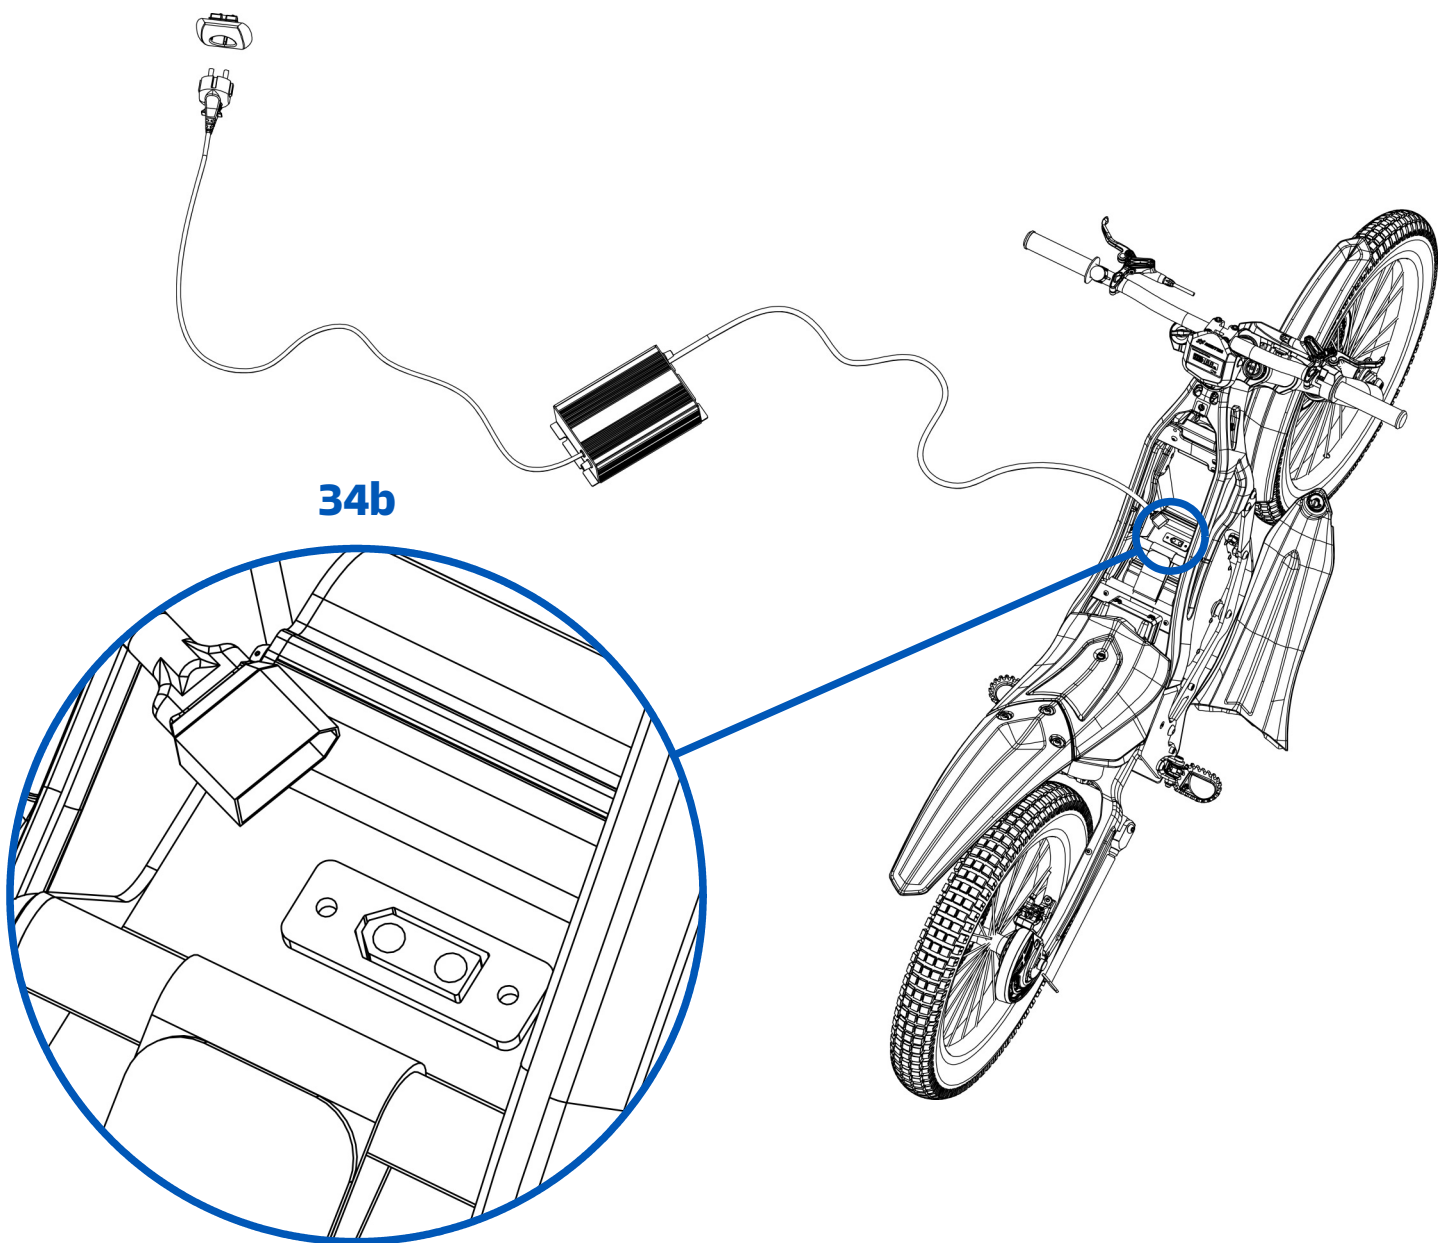

Fig. 34
- 5- Then, plug the charger cable into the domestic mains (Figure 34).
6- Finally, connect the charger cable with its two-pin connector to the battery. Correctly position the two-pin plug (Figure 34b) by aligning it with the slot and insert it (Figure 34).